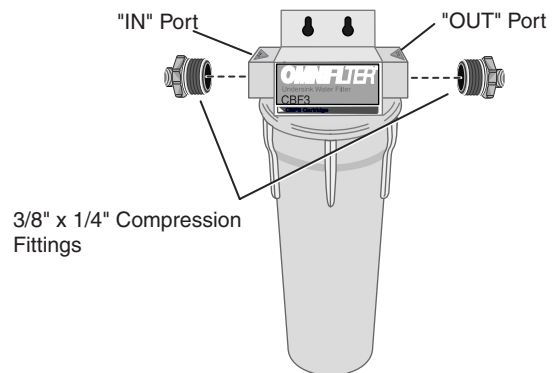

Figure 7
10. Install the two threaded compression fittings in the Filter Housing. See Figure 7.